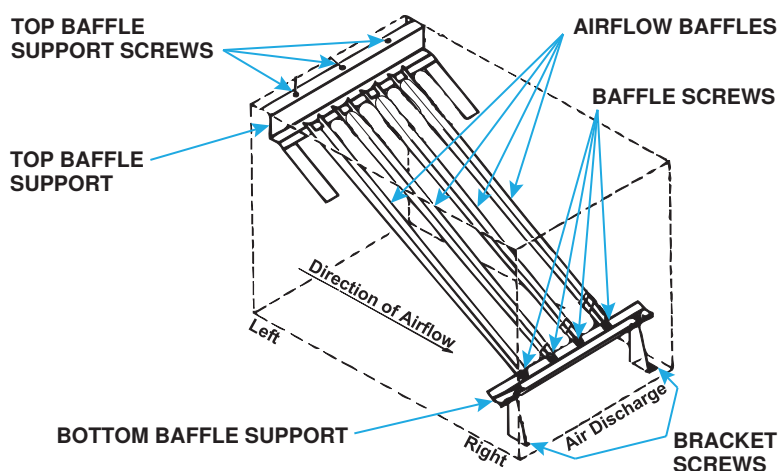

Figure 44. Airflow Baffles
- b. For standard (not high CFM) furnaces, remove baffle screws (see Figure 44) and lift each airflow baffle slightly and slide forward. Remove all baffles from heat exchanger.